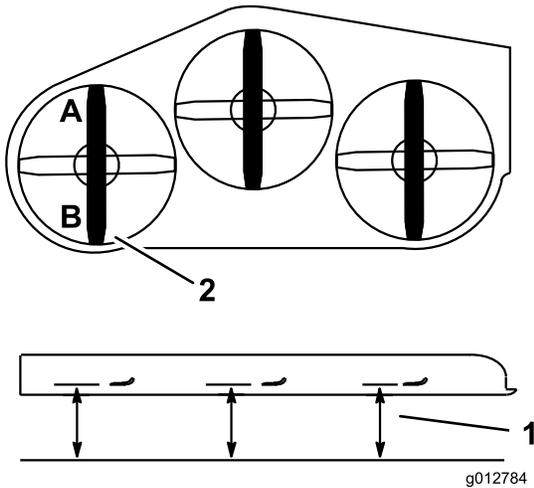

Figure 85
2. Measure the left blade at the **A** location, from a level surface to the cutting edge of the blade tip and record this measurement (Figure 85).
3. Measure the left blade at the **B** location, from a level surface to the cutting edge of the blade tip and record this measurement (Figure 85).
4. The mower blade should be a 1/4 to 3/8 inch (6 to 10 mm) lower at position **A** than at position **B** (Figure 85). If it is not correct, proceed to the following steps.